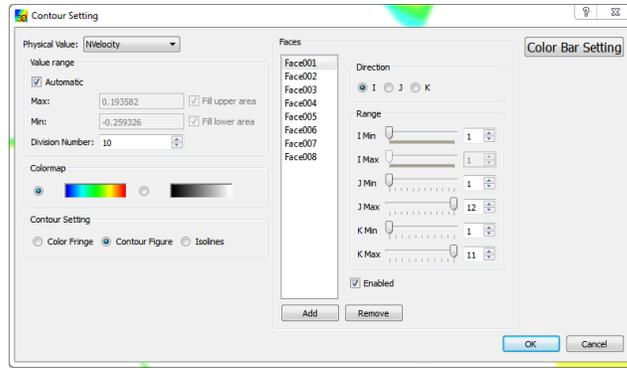

Figure 3. Contour Setting dialog
The solution can be animated using both the 2D and 3D post-processor views (Figure 3) as follows:
1. To animate or step through individual time steps of the 2D solution and create the images at time 0 and 86400 seconds in panels A and B of Figure 3 follow the steps below:
2. To animate or step through individual time steps of the 3D solution and create the images at time 0 and 86400 seconds in panels B and C of Figure 3 follow the steps below: